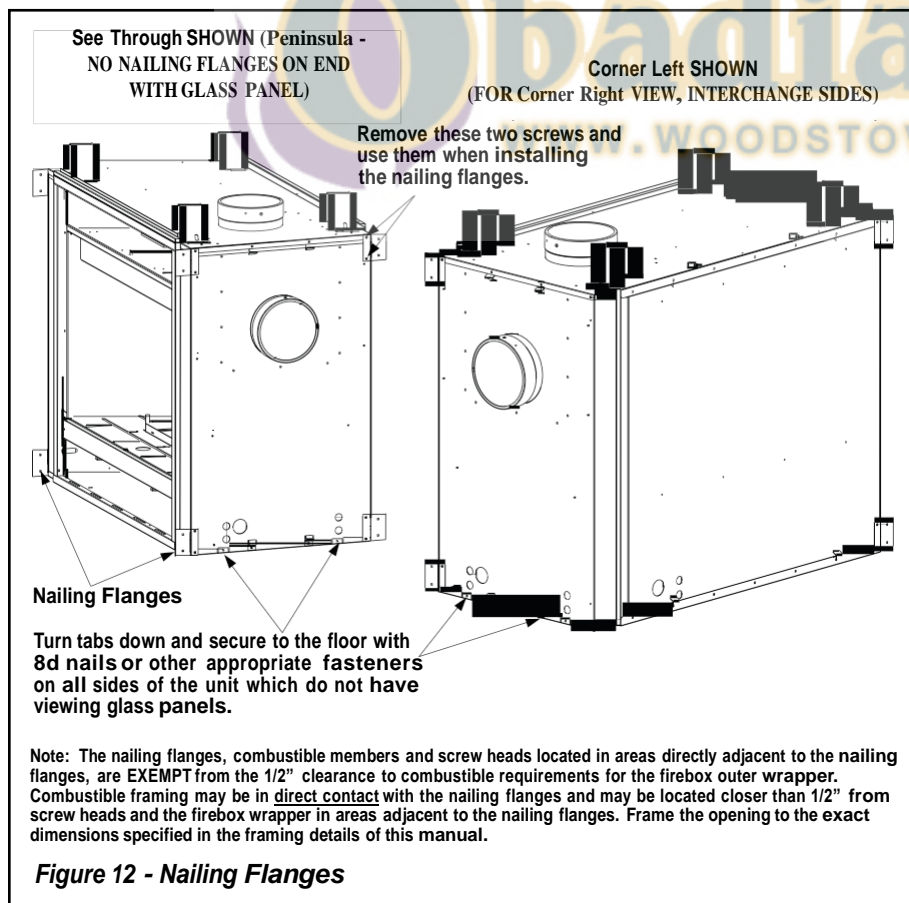

Figure 12 - Nailing Flanges
***Note: See Page 10, Step 1 and Figure 12 for clearance requirements to the nailing flange located at each side of the unit and any screw heads adjacent to it.*
Step 1. (Page 12) Construct the appliance framing. Position the appliance within the framing and secure with nailing brackets (refer to Figure 12).
The fireplace should be secured to the framing at the side(s) and/or rear of the unit using the factory-provided nailing flanges. Install the nailing flanges - 8 (DRT40ST), 4 (DRT40PF, DRT40CL and DRT40CR) - as shown in **Figure 12** using the existing screws.
Secure the fireplace to the floor as shown in **Figure 12**.